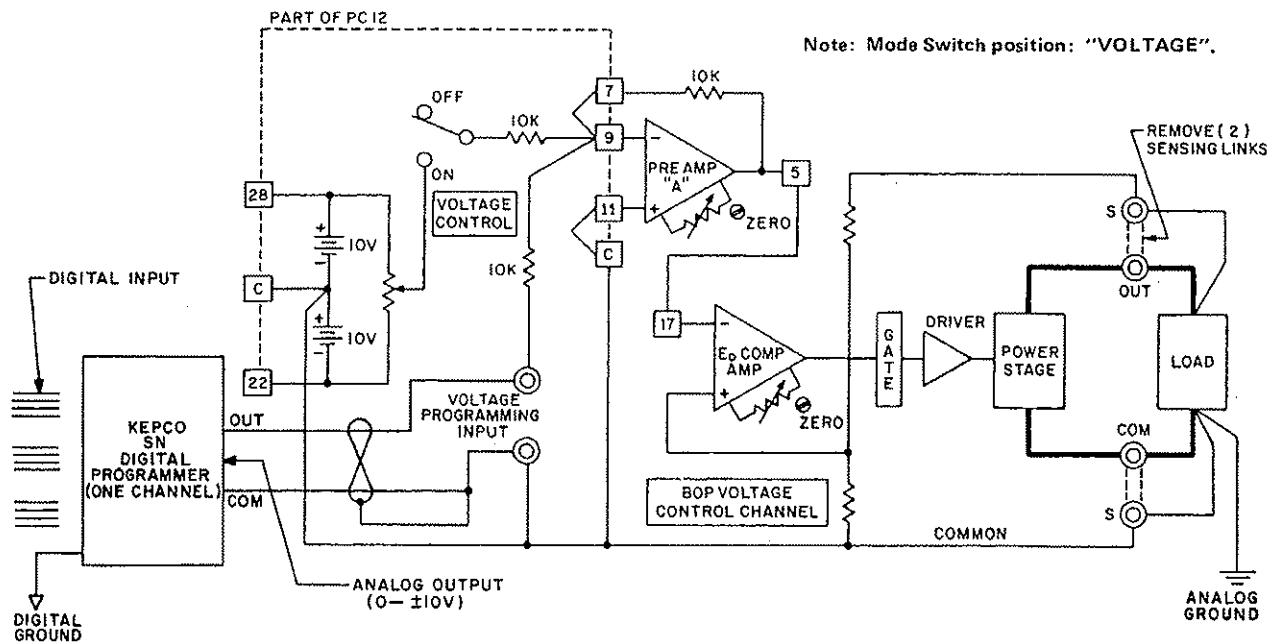

FIG. 3-6 DIGITAL CONTROL OF THE BOP D-C OUTPUT VOLTAGE.
- 3-18 The connections between the SN Programmer and the BOP are illustrated in FIG. 3-6. This programming system provides a resolution of 12-bits with a linearity of ($\pm)1/2$ LSB (0.0122%). The digital and the power supply grounds are isolated (optical isolation) to 1000 volts. Calibration of the system is performed with the provided controls on the SN Programmer. See paragraphs 3-46 through 3-82 for a description of available Kepco Digital Programming devices suitable for use with the BOP.